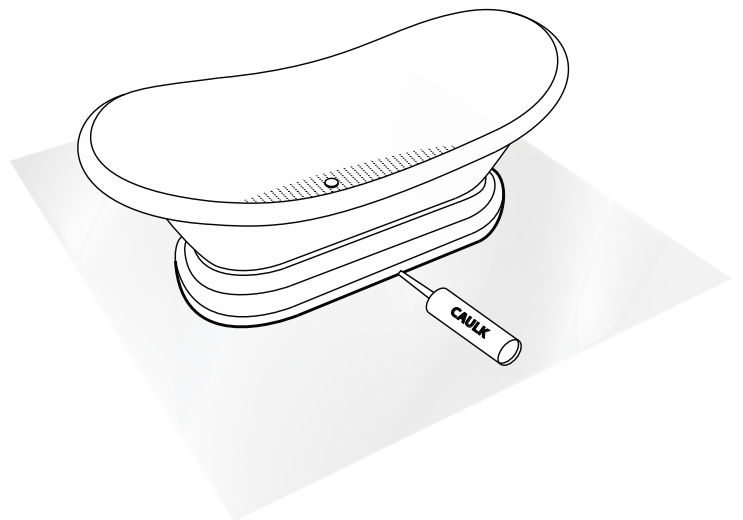

Figure 9
21. Run a bead of tub and tile caulk around the bottom edge of the bathtub where it meets the floor. Wipe off any excess caulk with a wet cloth (figure 9).